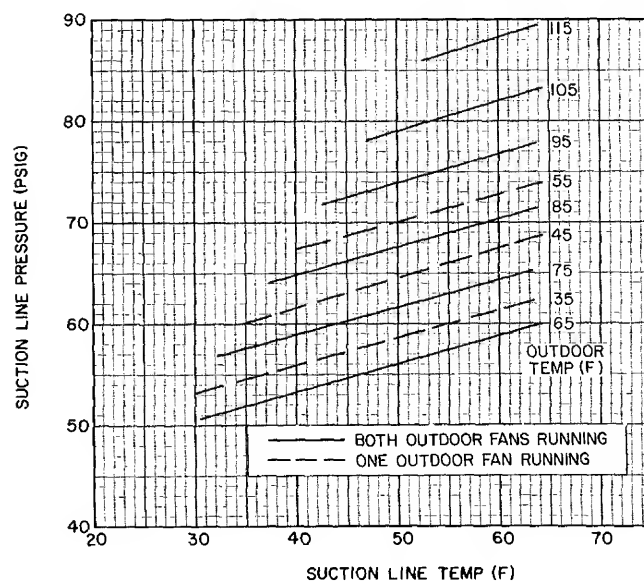

Fig. 24 — Cooling Charging Chart — 50DP012
**LOW CHARGE COOLING** — Using appropriate cooling charging chart, Fig. 24, 25, 26 or 27, add refrigerant until conditions of the chart are met. Note that charging charts are different from ones normally used. Charts are based on charging units to correct superheat for various operating conditions. An accurate pressure gage and temperature sensing device are required. Connect temperature sensing device to service port on suction line and insulate it so that outdoor ambient temperature does not affect reading. Indoor air cfm must be within normal operating range of unit.
Example: Fig. 24 — 50DP012